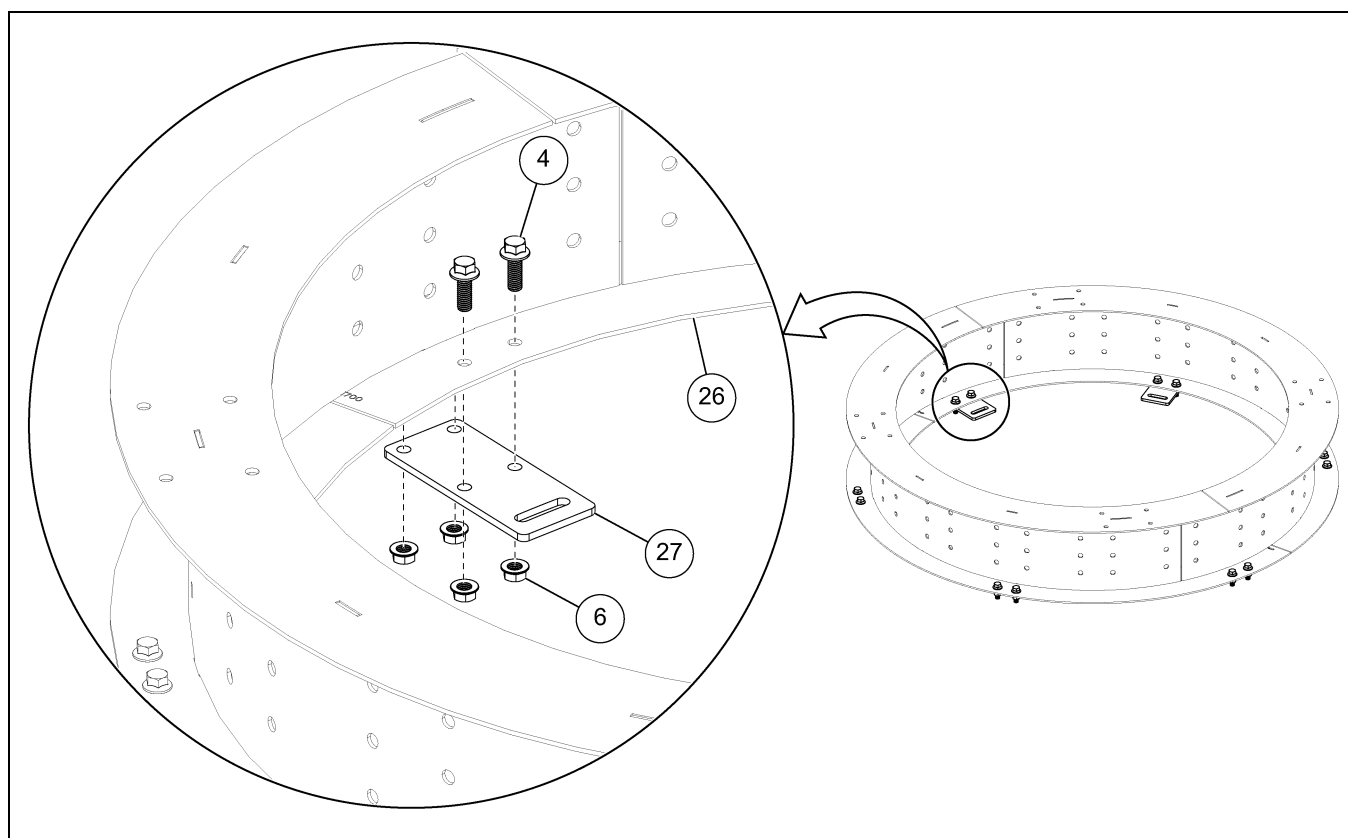

Figure 4I *Assembling the Mounting Brackets to the Center Collar*
1. Locate a set of four holes on the bottom flange of the center collar (26) and place the mounting bracket (27) to the underside of the center collar.
2. Install 3/8" x 1-1/2" flange bolts (4) and 3/8" flange nuts (6) to secure the mounting bracket (27) with the center collar (26). *(See Figure 4I.)*
3. Repeat the procedure to continue installing all the remaining mounting brackets (27) to the center collar (26).